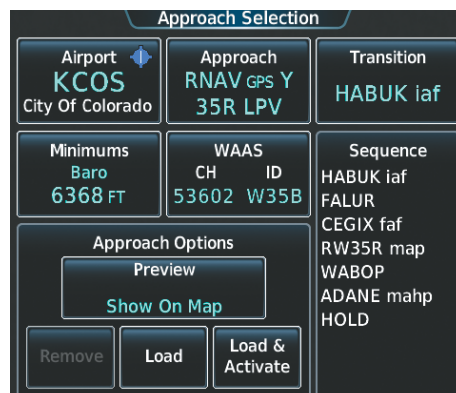

Figure 5-177 Minimums Set
- h) If necessary, touch the **Enter** Button to accept the minimum descent altitude and return to the Approach Selection Screen (Figure 5-177).